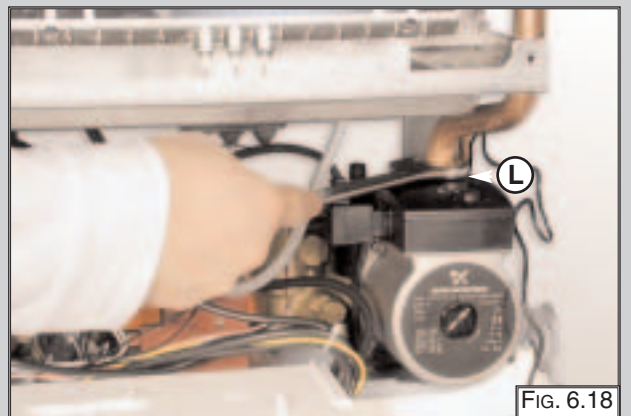

FIG. 6.18
6. Release the connection nut "L" (FIG. 6.18);